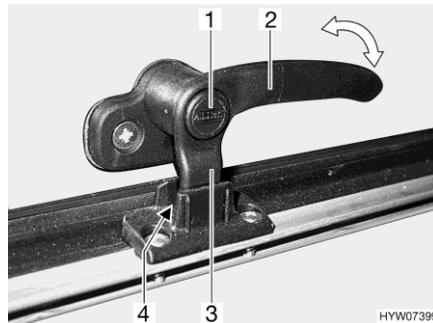
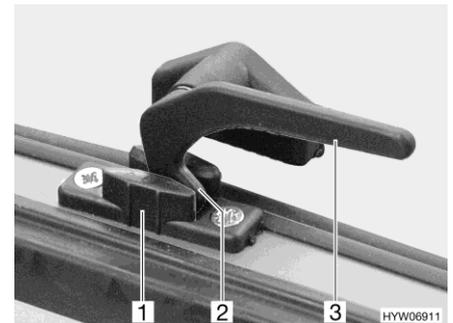

Fig. 73 Catch lever with safety knob in "continuous ventilation" position
Fig. 74 Catch lever in "continuous ventilation" position
- "Continuous ventilation" (Fig. 73 and Fig. 74)
- Press and hold the security button (Fig. 73,1), if present.
- Turn the catch lever (Fig. 73,2 or Fig. 74,3) a quarter turn towards the centre of the window.
- Return the catch lever to its initial position. Move the locking catch (Fig. 73,3 or Fig. 74,2) on the catch lever into the recess of the window catch (Fig. 73,4 or Fig. 74,1).